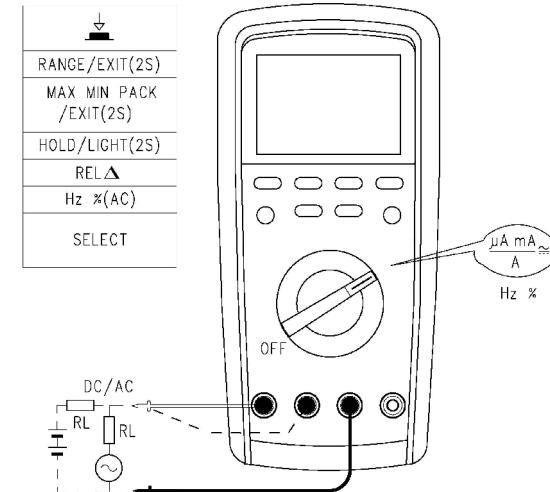

Figure 10
**8. Measuring AC/DC (see Figure 10)**
- \* Long press SELECT in mA function range, to access % (4-20mA) measuring function, and the percentile calibration of measured current will be displayed: 4mA for 0%; 20 mA for 100% (applicable to UT171B/C only), see Figure 10.